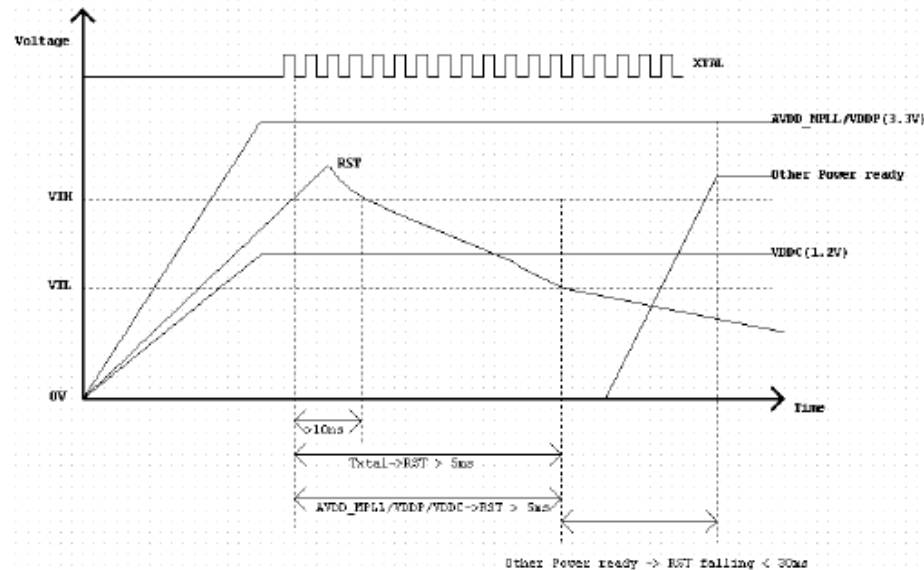

Figure-2 Correct Power Sequence for
The power sequence is as shown in Figure-2.
- External 3.3V LDO + external 1.8V LDO, the timing is as Figure-2.
- The RST waveform must satisfy Figure-2 with parameter as Table1.